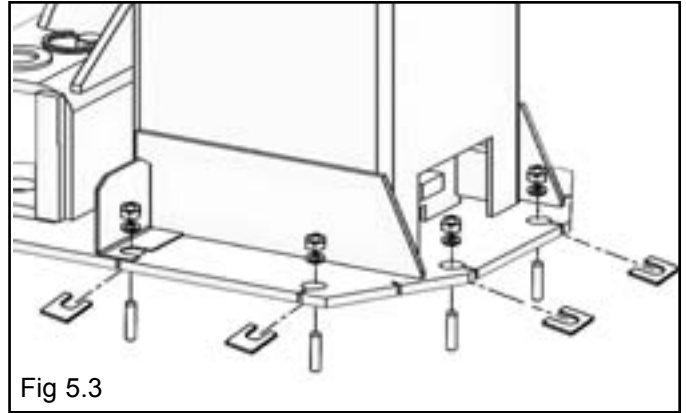

Fig 5.3
5. If shimming is required, insert the shims as necessary under the Base Plate so that when the anchor bolts are tightened, the Columns will be plumb. (See Fig. 5.3)